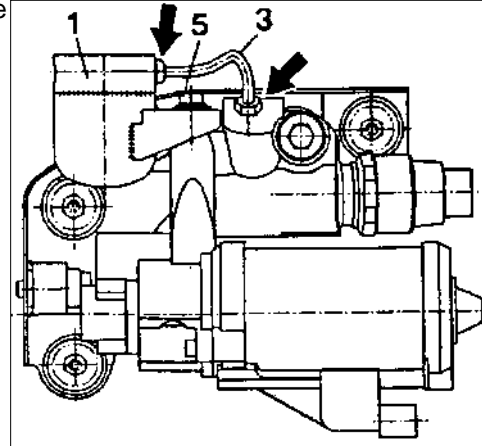

Figure 5
- Install the short pressure line (3 in Figure 5) onto the pump and finger tighten only.
- Remove the two plastic plugs from the damper (1 in Figure 5). Install the other side of the short pressure line into the damper and finger tighten only.
- Secure the damper to the pump using the bolt (5 in Figure 5) and install into the threaded plug. Torque the bolt to 9.7 Nm (11.5 ftlbs).
- Tighten both connections on the short pressure line (arrows in Figure 5) to 14 - 16 Nm (10 - 11.5 ftlbs).